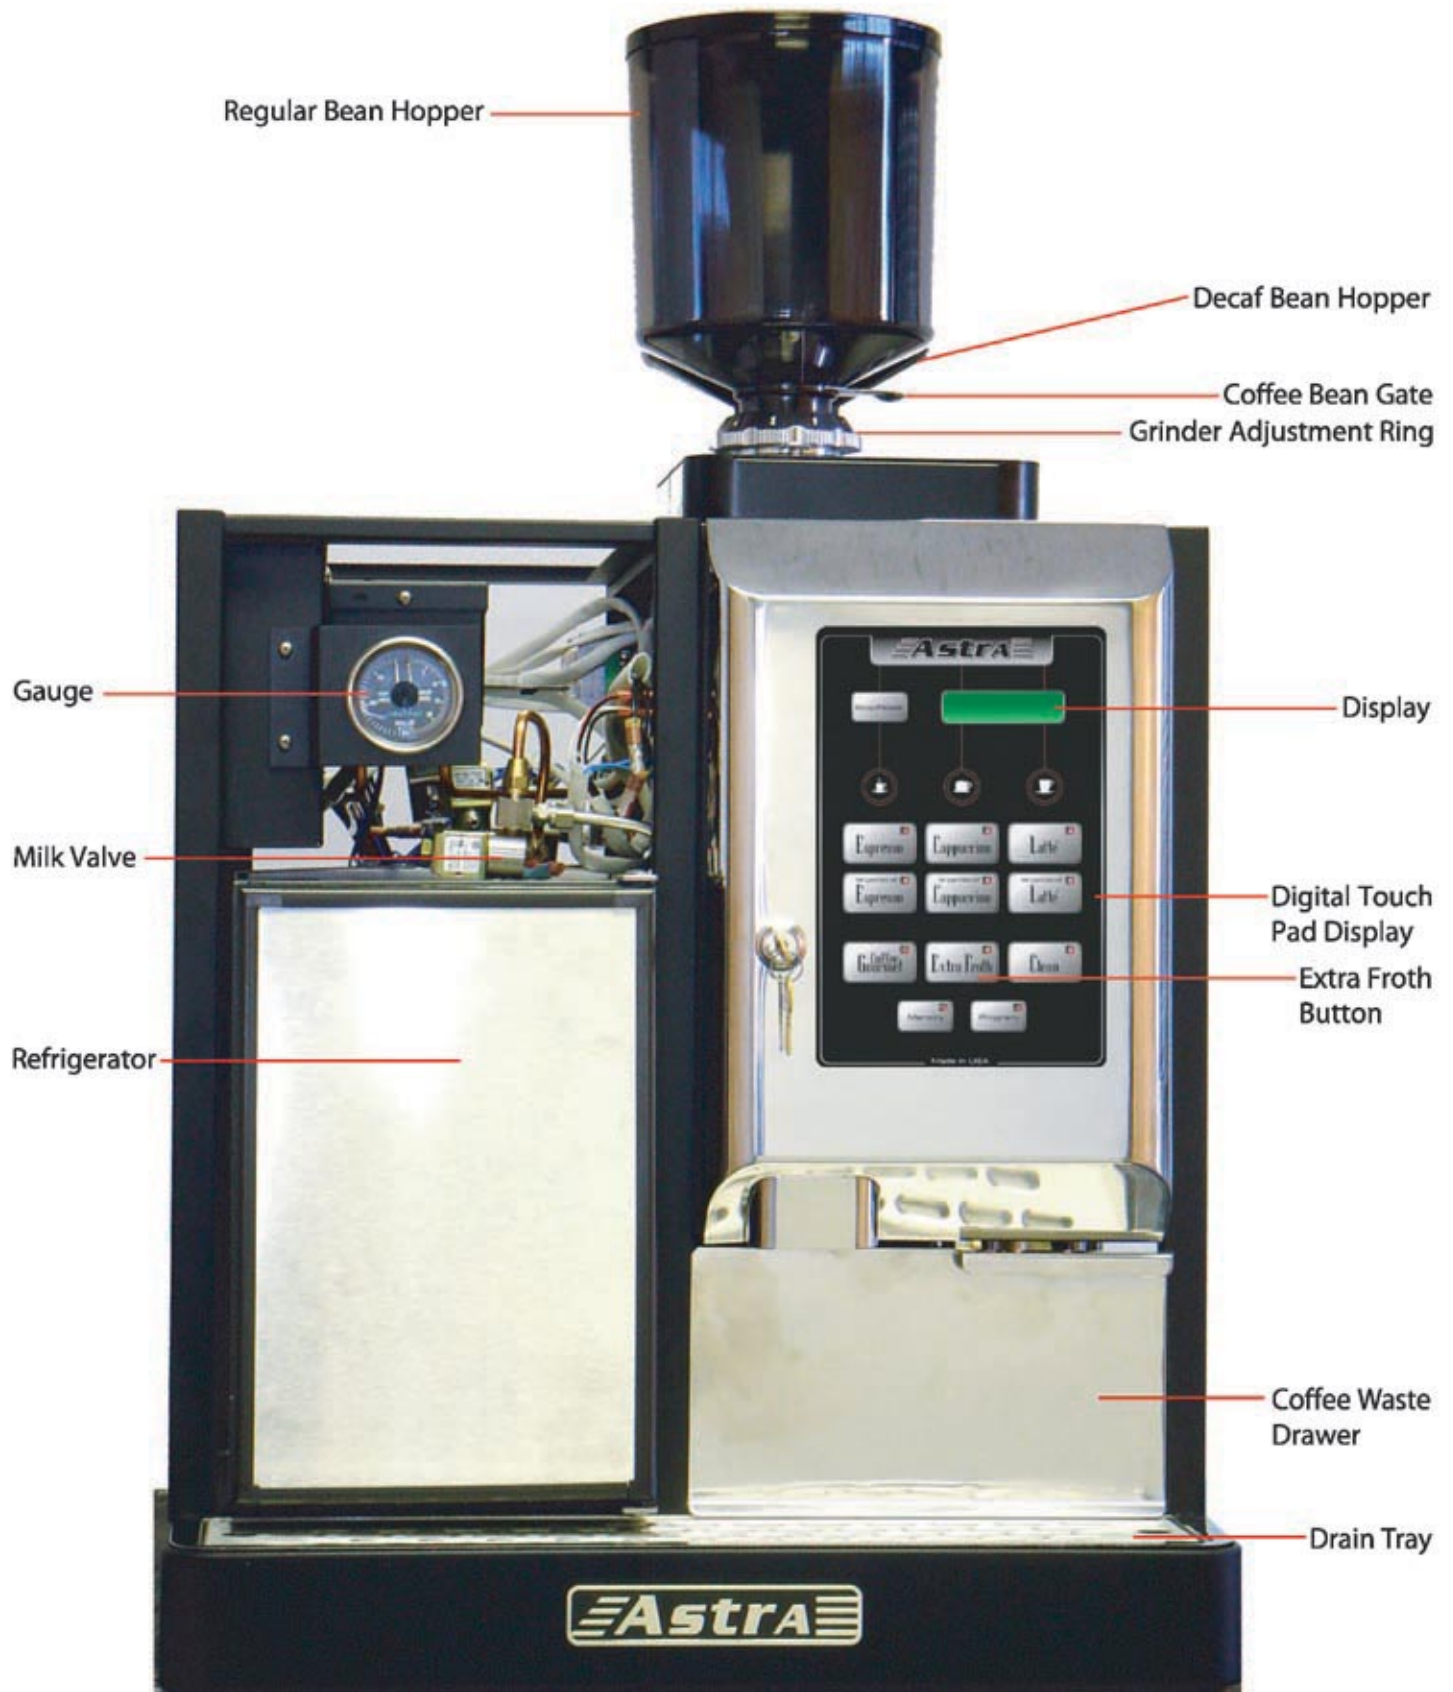

Fig. 2
4. Press and hold the "Extra Froth" button (See Figure 2) until all of the blue cleaning solution has been consumed.
6. Press and hold the "Extra Froth" button (See Figure 2) until all of the water has been consumed.